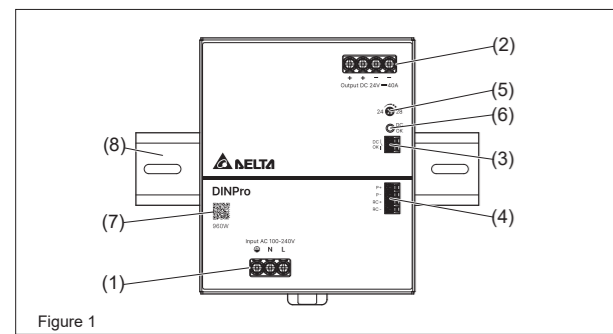

Figure 1
### 2. Device description (Fig. 1)
#### 4.1. Input connection (Fig. 1 (1), Fig. 5)
Use L, N and PE connections of input terminal connector (see Fig. 1 (1)) to establish the 100-240Vac connection.
#### 4.2. Output connection (Fig. 1 (2))
Use the "+" and "-" screw connections to establish the 24Vdc or 48Vdc connection. The green LED DC OK displays correct function of the output (Fig. 1 (6)).